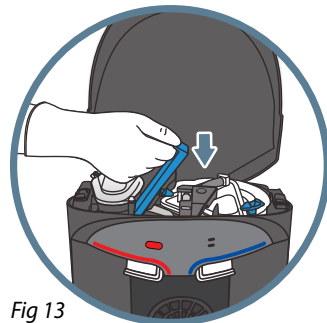

Fig 13
14. Rotate the blue knobs to the closed position. Close and latch the blue locking arm (Fig 13).